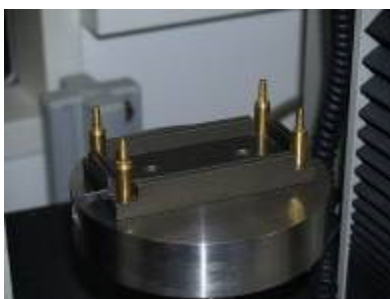

Figure 5 Counter stamp
1. Counter stamp is mounted onto an even and stable surface (Figure 5 left)
2. PCB is brought over the guiding domes in the correct position (Figure 5 middle)
3. The module is positioned according to the hole layout (Figure 5 right)